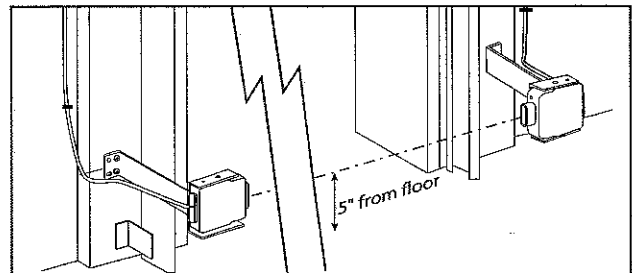

FIG. 5-4 Check Safety Beam Alignment.
##### Check Safety Beam alignment (Fig. 5-4).
- Insure that tops of lenses are between 5" - 6" above the floor (Fig. 5-4). The brackets are flexible, and can be adjusted slightly if needed.